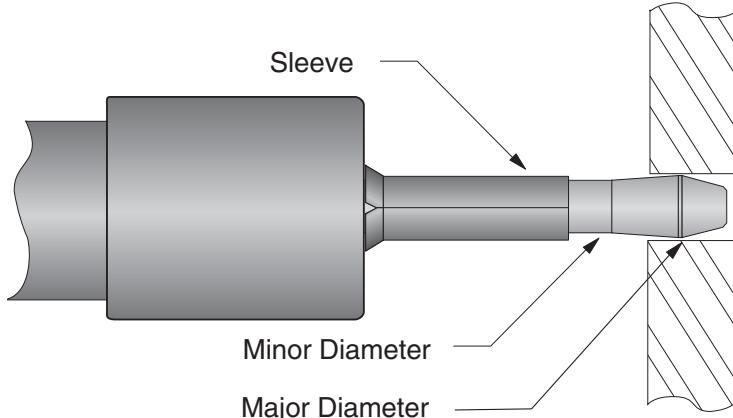

Figure 4-05 — Positioning Sleeve on Mandrel (dimensions exaggerated for clarity)
- 4.7.7 Slide the split sleeve onto the mandrel, until flush against the nosecap. Ref. Fig. 4-05.